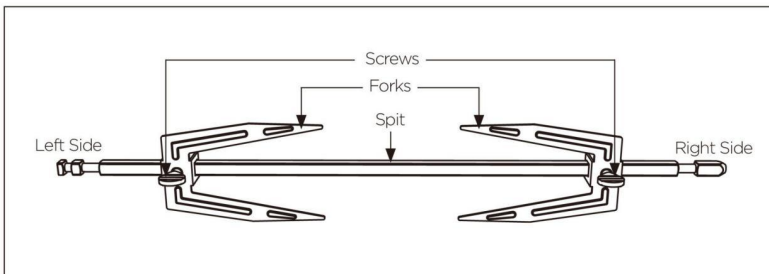

Figure 1
9. Put the solid end (Right Side - see Figure 1) of the Rotisserie Spit in the drive socket on right interior wall of the oven.
10. Place the grooved end (Left Side - see Figure 1) of the Rotisserie Spit on the left interior wall of the oven.